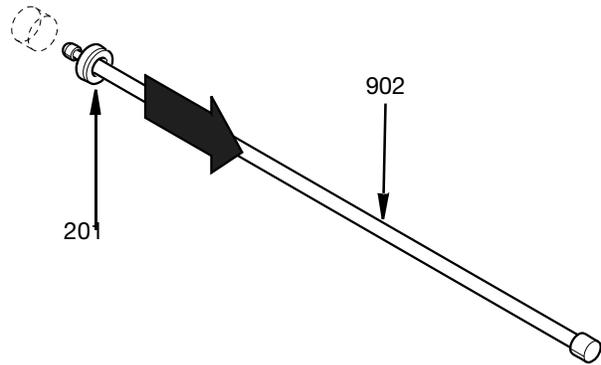

FIG. 37
To remove a rod seal, place pointed end of the seal installation rod (902) through the center of the rod seal (201). Hook the indent of the tool onto the opposite face of the seal and retract seal from the packing spacers (203 and 204) or air cylinder housing (509). See FIG. 37.